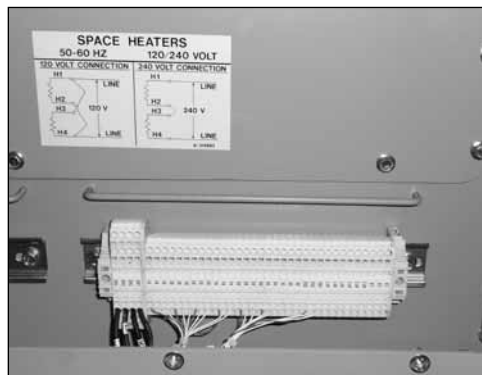

Figure 6-9
4. Disconnect Air Flow RTD wires from terminals AF1 and AF2 and Leak Detector Form-C contact wires from terminals LD. (Figure 6-9)
4. Disconnect RTD wires from terminals R1 - R6, and DE. (Figure 6-9)